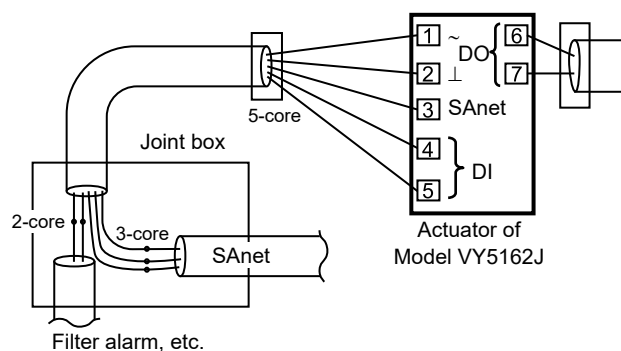

Figure 12. Separation of sub-DO line from other lines
2. With Data Setter or PC-MMI, enter the SAnet ID (on the product code label) and address number to set. The product code label is attached on the side surface of the actuator, as shown in Fig. 12.